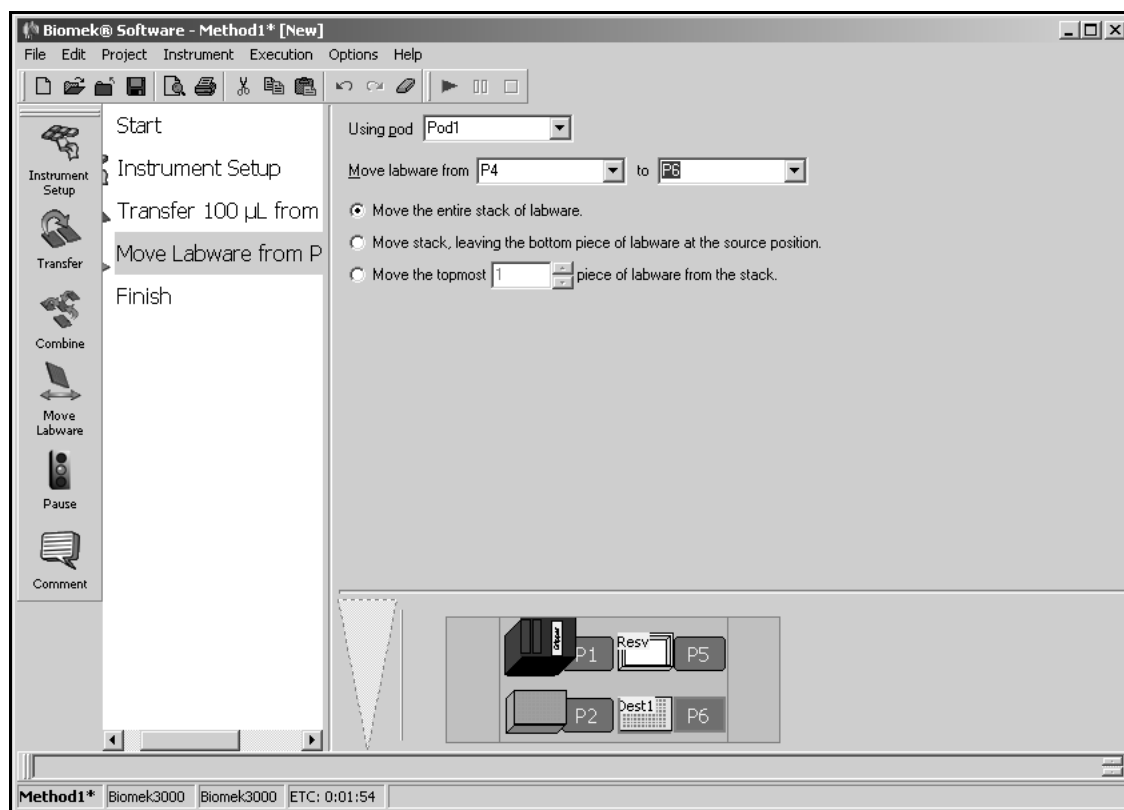

Figure 2-11. Configured Move Labware step
3. In Move labware to, select **P6** from the drop-down menu. The main editor should now look like Figure 2-11.